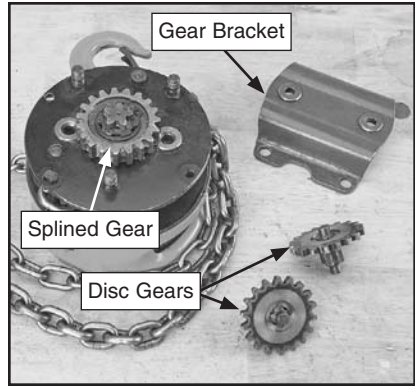

Figure 3. Gears exposed.
3. Remove the three hex nuts and lock washers that secure the gear bracket, then remove the bracket (see **Figure 3**).